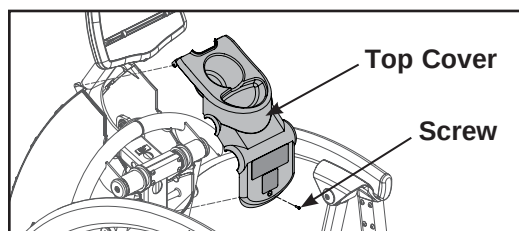

Figure 6
- A. Using a Phillips screwdriver, remove the screw securing the top cover. See Figure 6.